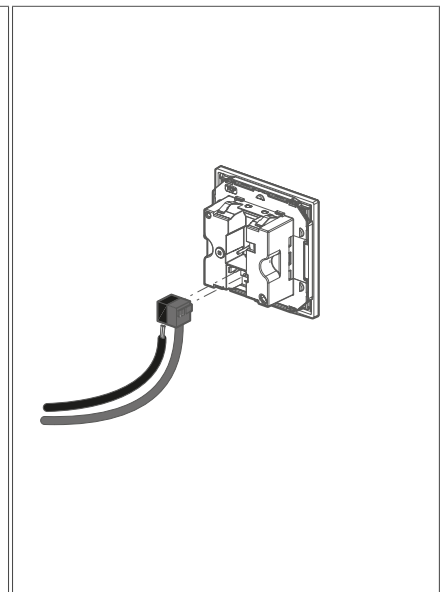

Fig. 20: Disconnecting the KNX bus connection terminal
- ③ Remove the KNX bus connection terminal from the device (see Fig. 20).
- ④ Optional: Disconnect the connecting terminal of the temperature sensor.